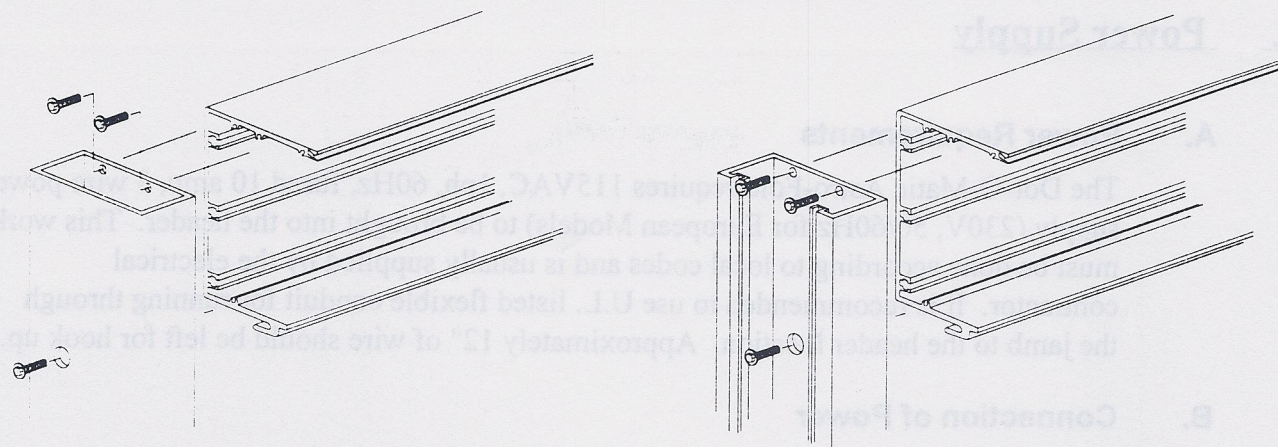

Figure 7: Attaching 1-piece and 2-piece jamb tubes to the header.
- (1) Attach the jamb tubes to the header assembly using the three (3) 1/4-20 bolts provided (See Figure 7).
- (1) Attach the 3/4 section of the jamb tube to the header using the three (3) 1/4-20 bolts provided (See Figure 7)
- (2) If the system is to be mounted "concealed" in the wall, snap the back section of the tube into place, concealing the screw-heads. Removing the snap-in strip is difficult, but it can be done.